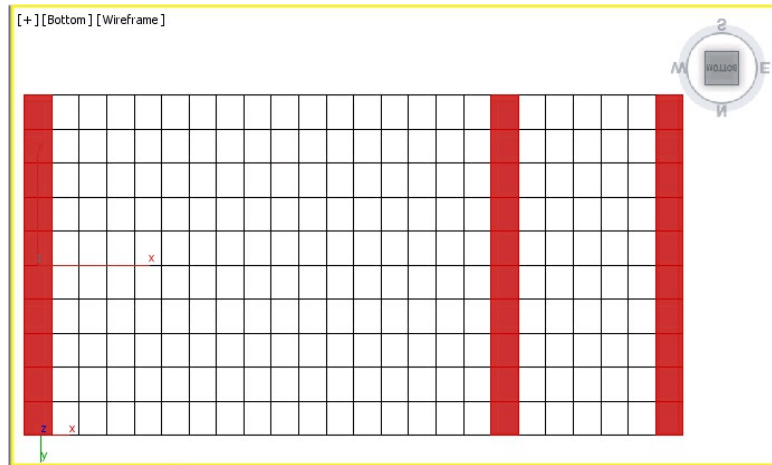

Figure 9-61 Selected polygons of computer table
5. Switch from the Top viewport to the Bottom viewport and select the **Polygon** sub-object level. Next, select the polygons of *computer table*, as shown in Figure 9-61.